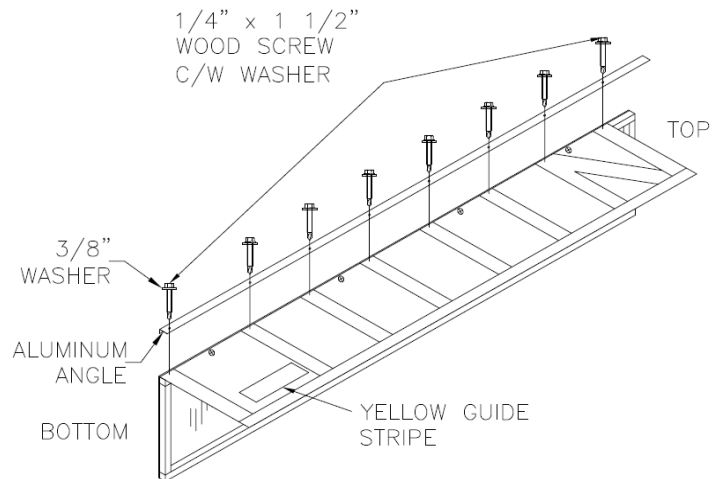

FIG. 5B
- a. **Match holes** in Aluminum Angle with holes in Vertical Panel stays (Figure 5b).